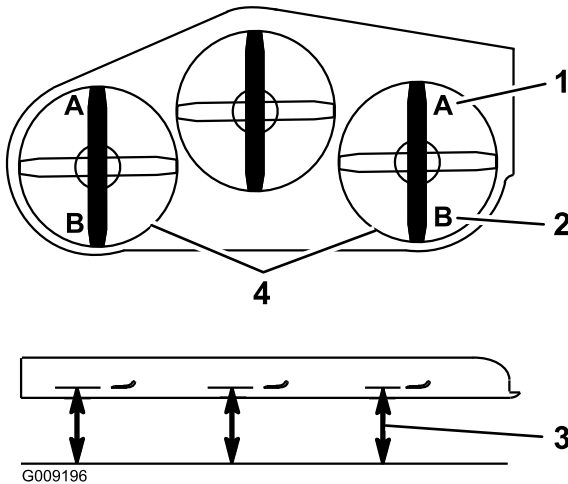

Figure 86
- 9. On both sides of the deck, measure from the level surface to the front tip of the blade (Position A). The measurement should read 7.6 mm (3 inches) (Figure 86).
15. On both sides of the deck, measure from the level surface to the back tip of the blade (Position B). The measurement should read 8.3 cm (3 1/4 inches) (Figure 86).